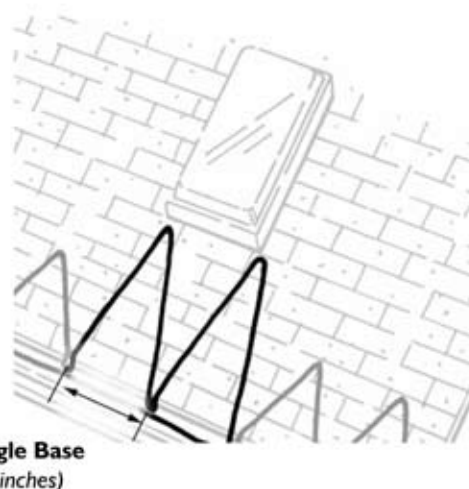

Figure 5. Triangle pattern near skylight
- **Pattern for skylights:** Problem skylight areas are also treated with the "triangle pattern" approach. However, the height of the triangles may need to be greater than those along the roofline. Increase the triangle height so that it extends to one shingle row (5½ inches) below the skylight. The triangle base is maintained at 15 inches (See Figure 5).